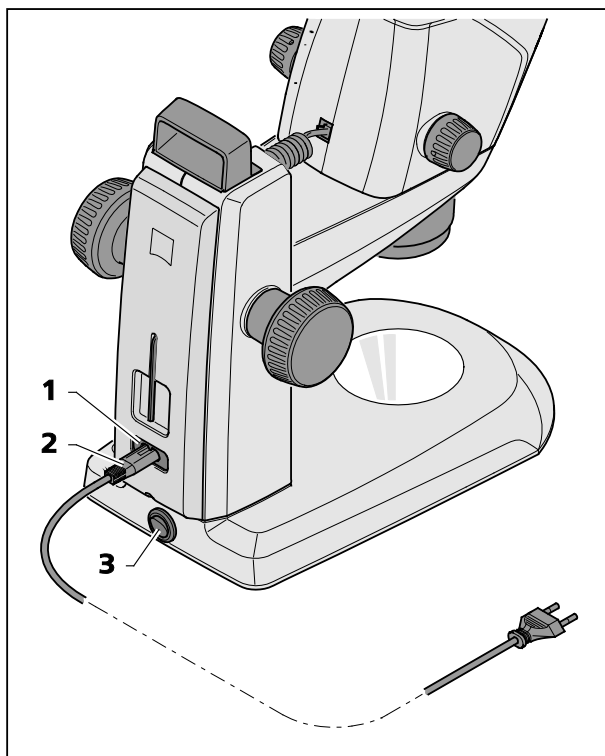

Fig. 5 Connecting the stereo microscope
- Insert the mains cable (Fig. 5/2) in the mains supply socket (Fig. 5/1) of the stand.
- Connect the mains cable (Fig. 5/2) to a mains supply socket outlet.
- Use the power switch (Fig. 5/3) to switch the stereo microscope ON or OFF.
- Switch the stereo microscope ON acc. to section 3.3 using the power switch (Fig. 5/3).